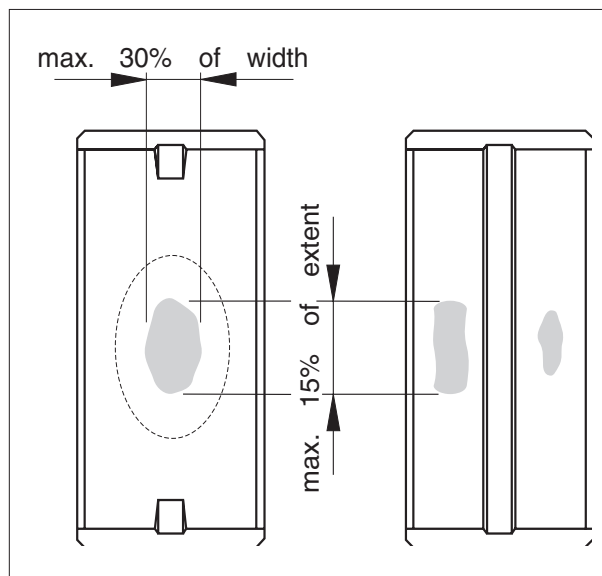

Fig. 18.
**Valuation:** If the limits shown in the below fig. 18 and 19, are exceeded, the bearing shells must be exchanged.